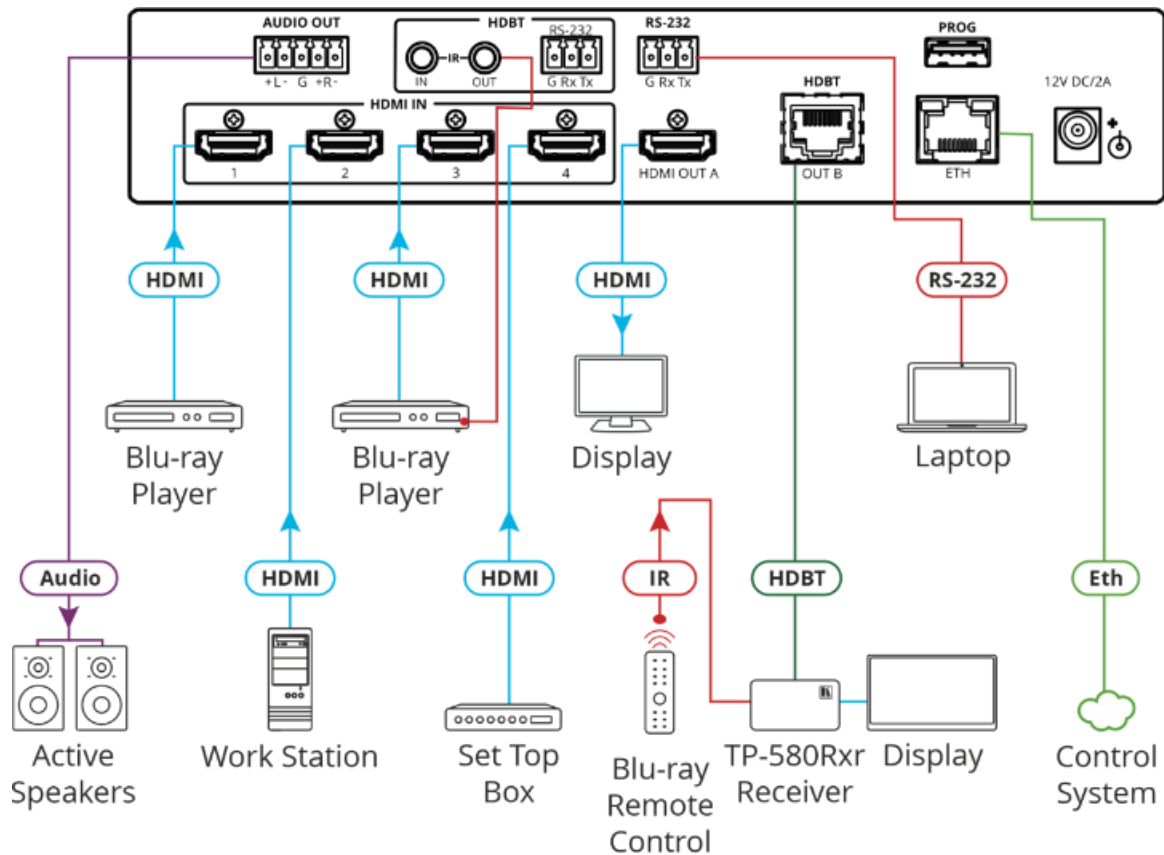

Figure 3: Connecting to the MV-4X Rear Panel
To connect **MV-4X** as illustrated in the example in Figure 3:
1. Connect up to 4 HDMI sources (for example, Blu-ray players, a work station and set top box) to the HDMI IN connectors (11).
2. Connect the HDMI OUT A connector (16) to an HDMI acceptor (for example, a display).
3. Connect the HDBT OUT B RJ-45 port (17) to a Receiver (for example, Kramer **TP-580Rxr**).
4. Connect the AUDIO OUT 5-pin Terminal block connector (12) to balanced stereo audio active speakers.
7. Connect the power adapter to **MV-4X** and to the mains electricity (not shown in Figure 3).